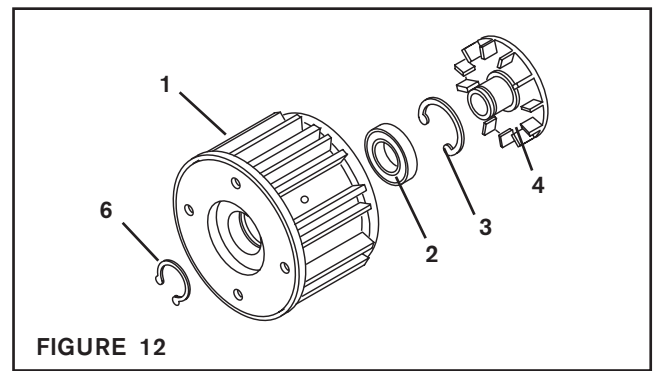

FIGURE 12
- Remove the Retaining Ring (Item 6) and press the Drive Disc (Item 4) out of Housing (Item 1) (See Figure 12).
- Remove the Retaining Ring (Item 3) (See Figure 12).
4. Fully supporting the Housing (Item 1), press the old Ball Bearing (Item 2) out of the Housing (See Figure 12).
5. Clean the bearing bore of the Housing (Item 1) with fresh safety solvent, making sure all old Loctite residue is removed (See Figure 12).
6. Apply an adequate amount of Loctite 680 to evenly coat the outer race of the new Ball Bearing (Item 2) (See Figure 12).
7. Carefully align the outer race of the new Ball Bearing (Item 2) with the bore of the Housing (Item 1) (See Figure 12).
8. Supporting the Housing (Item 1) and pressing on the outer race of the new Ball Bearing (Item 2), press the new Ball Bearing into the Housing (See Figure 12).
9. Reinstall the Retaining Ring (Item 3) (See Figure 12).
10. Support the inner race of the new Ball Bearing (Item 2) and press the Drive Disc (Item 4) into the new Ball Bearing and Housing (Item 1) (See Figure 12).
11. Reinstall the Retaining Ring (Item 6) (See Figure 12).